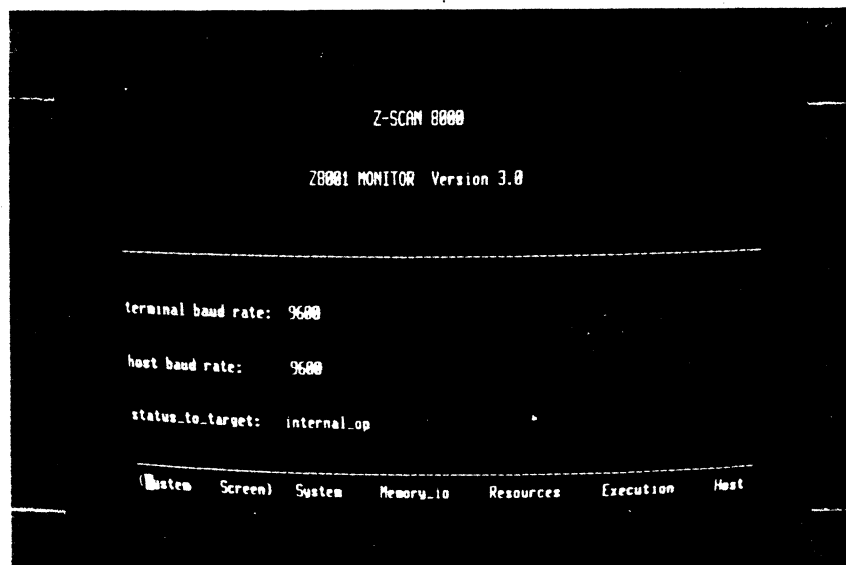

Figure 3-7. The System Screen
5. Enter a RETURN to display the System screen. As indicated in Figure 3-7, the System screen contains the following information: